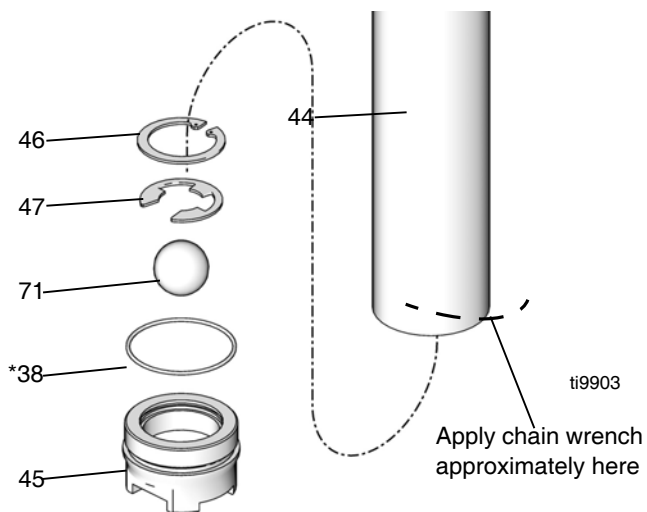

FIG. 17
When removing the suction tube, be very careful not to bend, dent, or damage it. To avoid damage, use the chain wrench only at the top and bottom of the suction tube as indicated in FIG. 16 and FIG. 17. Do not apply the wrench to the middle of the suction tube.
3. With the foot valve still in place to support the suction tube, use a chain wrench near the bottom of the suction tube at the point indicated in FIG. 17, to loosen the suction tube (44) from the pump body (34).
4. Remove the foot valve assembly from the suction tube (44).
5. Remove retaining ring (46), snap ring (47), ball (71), and o-ring (38\*) from foot valve (45). Inspect all parts for damage. See FIG. 17.